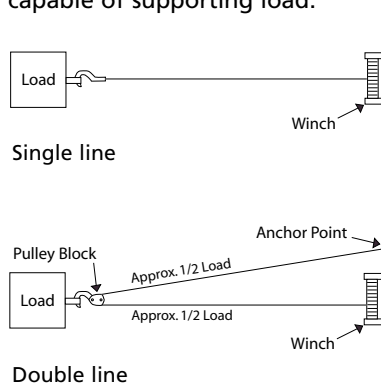

Figure 2
1. The AC1500 winch is rated at 1,500 pounds (680 kg) (single line) capacity on the wire rope layer closest to the drum. **DO NOT OVERLOAD. DO NOT ATTEMPT PROLONGED PULLS AT HEAVY LOADS.** Do not maintain power to the winch if the motor stalls. Overloads can damage the winch and/or the wire rope and create unsafe operating conditions. **FOR LOADS OVER 750 POUNDS (340 KG), WE RECOMMEND THE USE OF THE OPTIONAL PULLEY BLOCK TO DOUBLE LINE THE WIRE ROPE (Figure 2).** This reduces the load on the winch and the strain on the wire rope by approximately 50%. Do not hook back to winch. Always hook onto structure capable of supporting load.